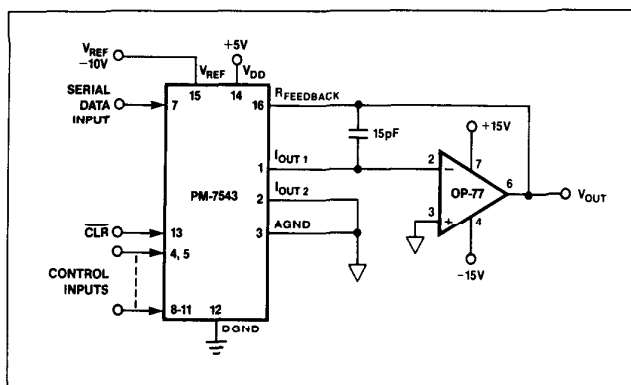

FIGURE 7: Unipolar Operation with High Accuracy Op Amp (2-Quadrant)
1. Phase compensation (see Figures 7 and 8).
In most applications, linearity depends upon the potential of  $I_{OUT1}$ ,  $I_{OUT2}$ , and AGND (pins 1, 2, and 3) being exactly equal to each other. In most applications, the DAC is connected to an external op amp with its noninverting input tied to ground (see Figures 7 and 8). The amplifier selected should have a low input bias current and low drift over temperature. The amplifier's input offset voltage should be nulled to less than  $\pm 200\mu V$  (less than 10% of 1 LSB).
The circuit shown in Figures 7 and 8 may be used with an AC or DC reference voltage. The circuit's output will range between 0V and approximately  $-V_{REF}$  (4095/4096) depending upon the digital input code. The relationship between the digital input and the analog output is shown in Table 2. The  $V_{REF}$  voltage range is the maximum input voltage range of the op amp or  $\pm 25V$ , whichever is lowest.
1. Nominal full scale for the circuits of Figures 7 and 8 is given by  $FS = -V_{REF} \left(\frac{4095}{4096}\right)$ .
2. Nominal LSB magnitude for the circuits of Figures 7 and 8 is given by  $LSB = V_{REF} \left(\frac{1}{4096}\right)$  or  $V_{REF} (2^{-n})$ .
The transfer function for the PM-7543 connected in the multiplying mode as shown in Figures 7 and 8 is: